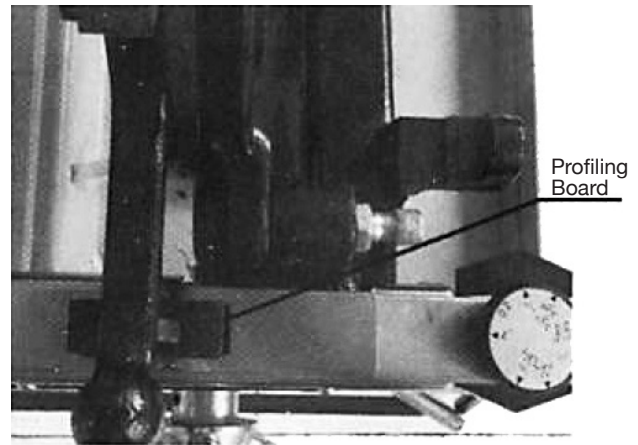

Fig. 5
- Pull up the cutter and reamer cutter kits to make room, then push down the die head to make it touch the profiling board (see Fig. 5). Lock it tight with the locking pin. Push the button switch to start the machine once the die head is fixed in its proper position.